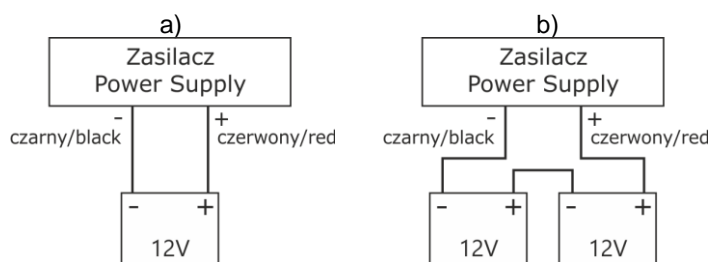

Fig. 4 Connecting batteries depending on voltage version of power supply:
6. Mount the battery(s) in the battery compartment of the enclosure. Connect the batteries with the PSU paying special attention to the correct polarity and type of connections (Fig.4):